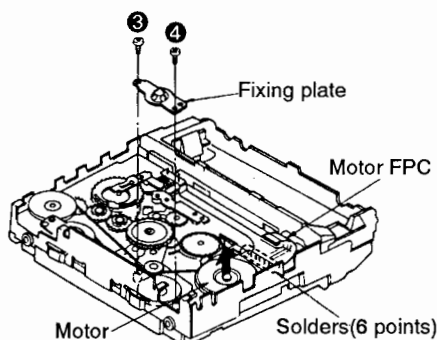

Fig. 2
3. Remove the 2 screws(❸, ❹) and the fixing plate.(Refer to Fig. 2.)
4. Unsolder the motor FPC(6 points).(Refer to Fig. 2.)
5. Remove the motor in the direction of arrow.(Refer to Fig. 2.)